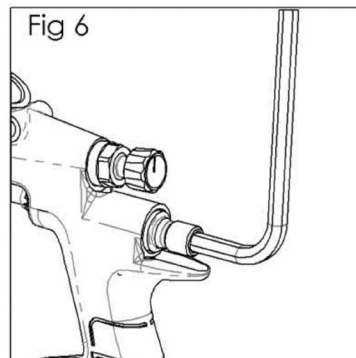

Fig 6
5. Using a 6mm hex key, remove valve housing (27). (See Figs 6 and 7).